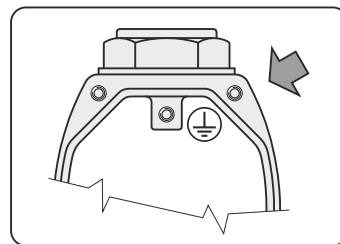

Fig.3
**CAUTION:** Inside the casing there is a screw whose position is marked by the ground symbol ( Fig.3 ). This is used for the earthing of the level gauge **ILP 3**. This screw must be connected to the yellow-green conductor (only green for the USA) of the signal carrying cable.